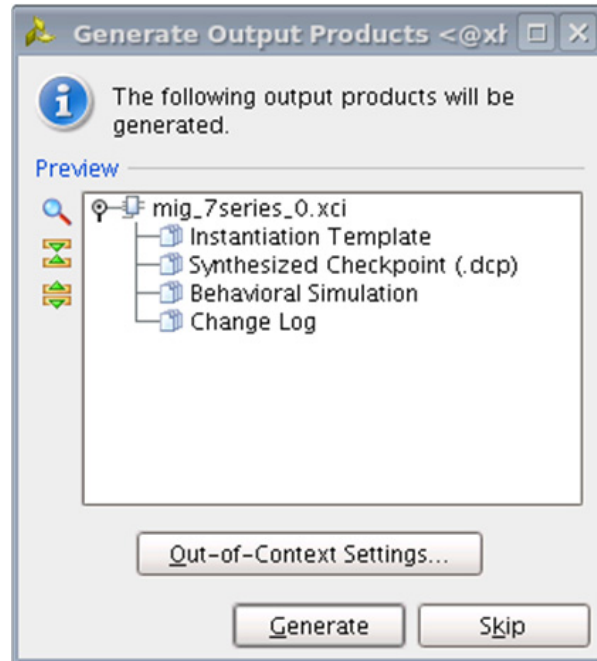

Figure 2-28: Generate Output Products Window
1. After clicking **Generate**, the **Generate Output Products** window appear. This window has the **Out-of-Context Settings** as shown in Figure 2-28.